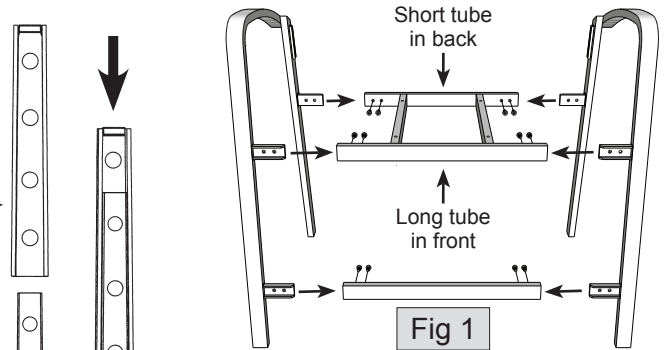

Fig 1
2. Connect H-frame and footrest between left and right leg frames, as shown in figure 1. Stems on leg frames slide inside tubes. Be sure long tube of H-frame is in front and short tube is in back. Attach using $\frac{5}{8}$ " Allen bolts. Keep bolts slightly loose.